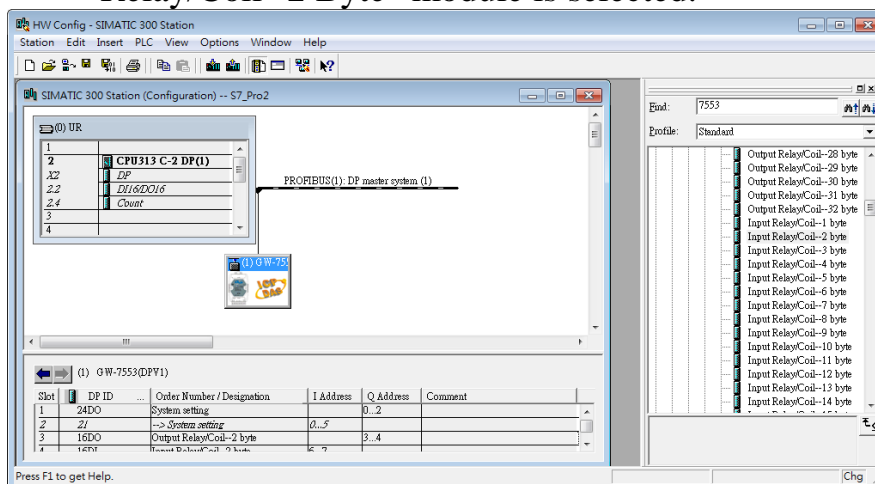
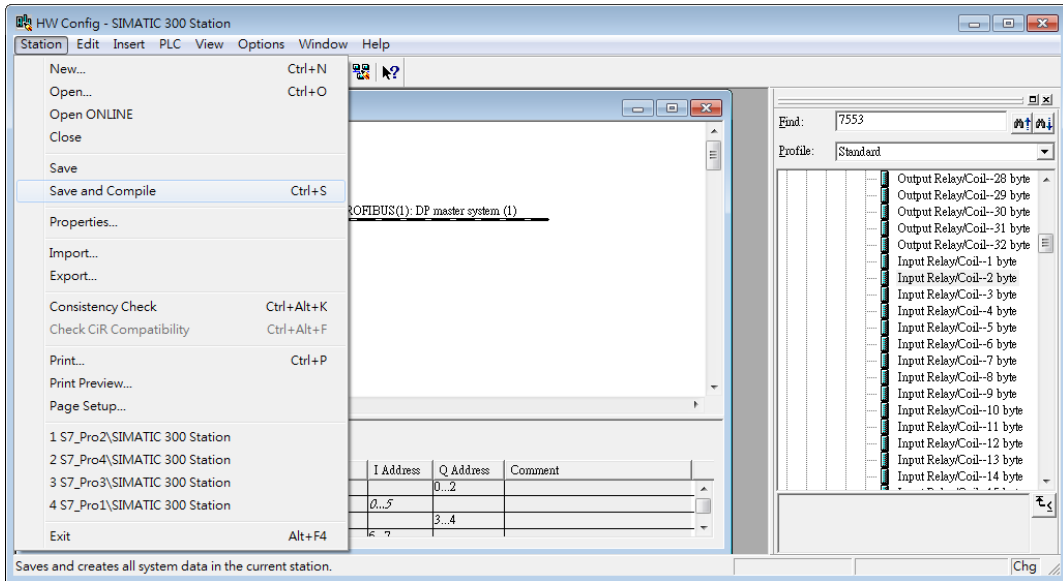

Figure 38 Add modules
Figure 39 Save and compile
Step 4: Set the GW-7553-B modules, as shown in **Figure 38** and **Figure 39**.